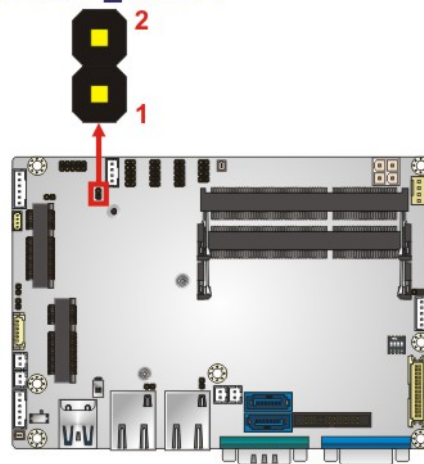

Figure 4-12: DC 5V Jumper Location
- Jumper Location:** See Figure 4-12